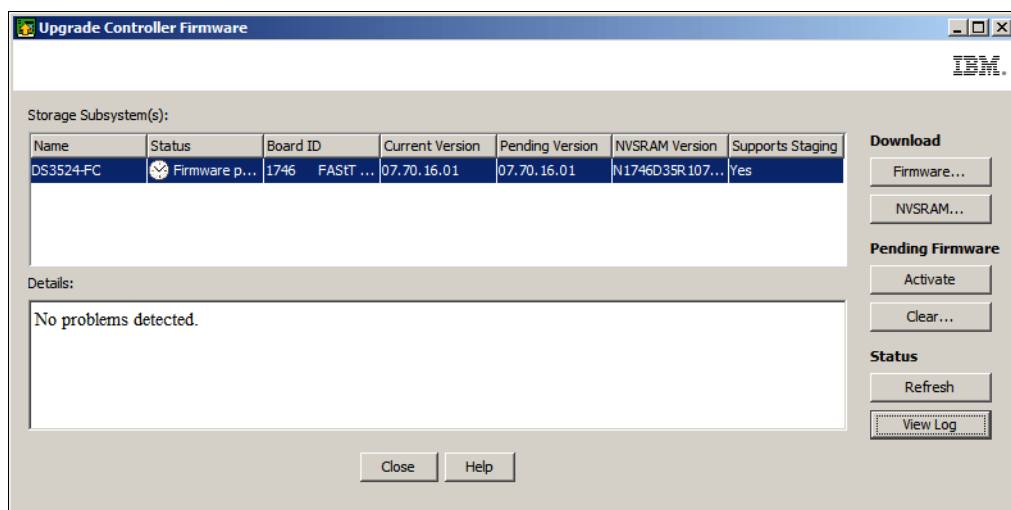

Figure 14-52 Pending firmware upgrade
- a. Click the **Clear** button in the **Upgrade Controller Firmware** window shown in Figure 14-52.